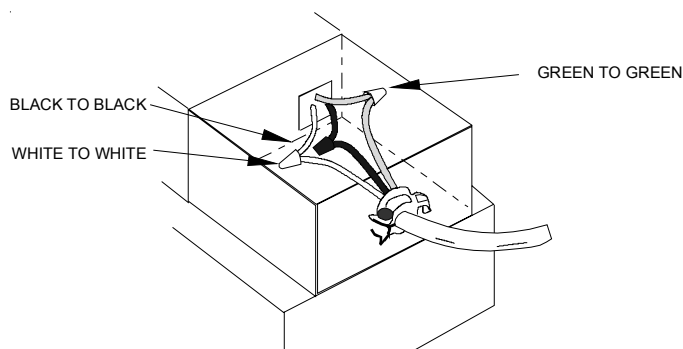

Figure 13
3. Wire unit to 120 volt, 60 Hz, 1 phase supply. A field-wiring compartment with knockout holes is located at the rear of the power tray assembly (Figure 14). The electronic airflow sensor will automatically cycle your EAC6 Electronic Air Cleaner with the blower system. The sensor is activated when the fan is on and air-flow is present in the duct. It is pre-set at the factory and needs no adjustment (Figure 13).